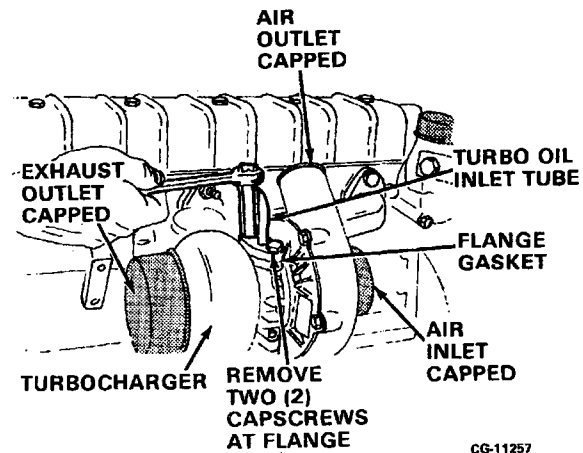

Figure 2.6. Removing Capscrews from Turbocharger Oil Inlet Tube Flange
- b. Remove the two capscrews from oil inlet tube flange. (See Figure 2.6.)
- c. Remove oil inlet tube flange and discard gasket. (See Figure 2.6.)